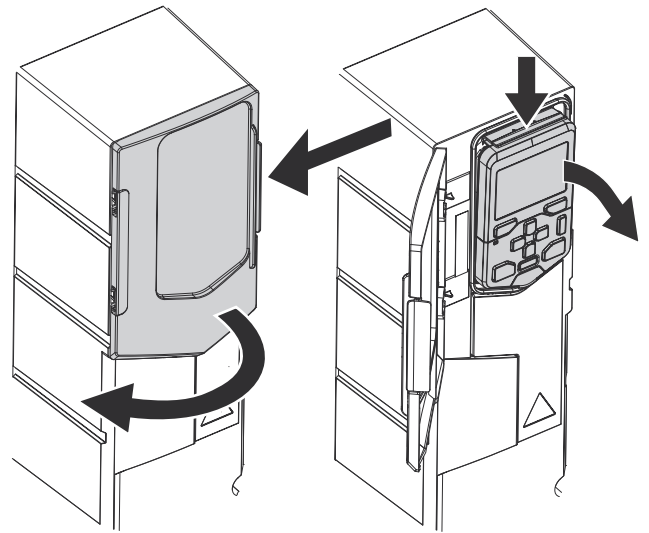

Fig. 63 — Open Keypad Cover and Remove Keypad
To replace the internal enclosure fan for frame sizes R1 and R2 perform the following (see Fig. 63, 64, and 65):
2. Remove the remote keypad, if installed. See Fig. 63.